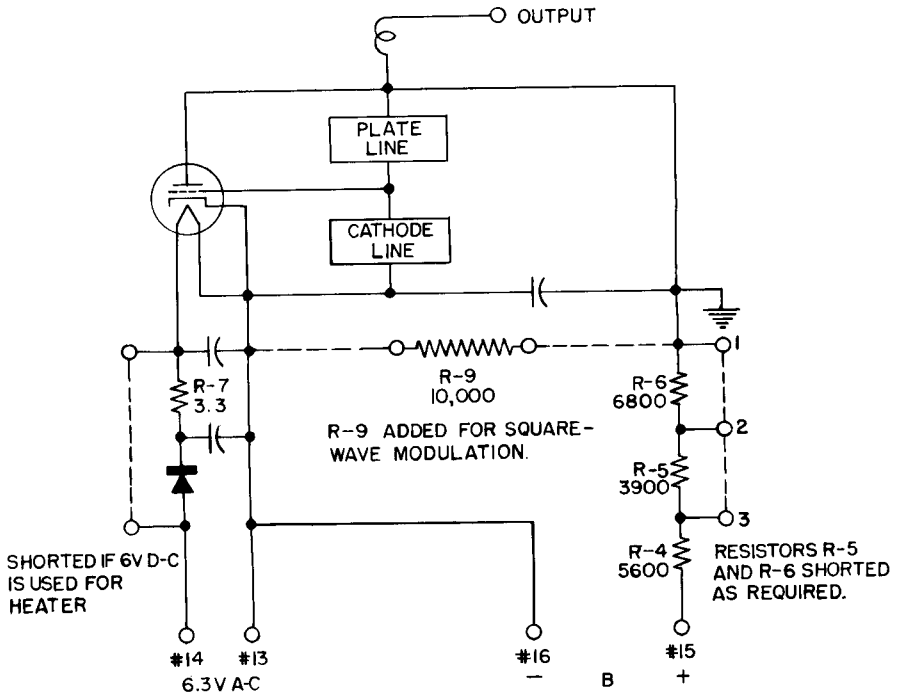

Figure 2. Simplified Heater and Plate Supply Wiring Diagram.
**2.3 POWER SUPPLY.** A wiring diagram of the oscillator is shown in Figure 10. A simplified wiring diagram for heater and plate supply is shown in Figure 2. Like other Unit Oscillators, the Type 1218-A works best from a 300-volt power supply with about one half this voltage on the plate of the oscillator tube. The large plate series resistor required for this operation helps stabilize the oscillator and protects the tube from overloads. To avoid complications in the rf output circuit, the B supply is grounded at the plate potential of the oscillator tube. To reduce undesirable fm, if 6.3-volt ac heater power is used, a rectifier and filter for the cathode heater voltage have been included. One of the small GR Unit Power Supplies will be satisfactory for most uses. These power supplies all have 300-350 volts plate voltage under load and 6.3 volts ac for the heater. For stable operation, good regulation and low hum voltages are essential. A one-percent change in plate voltage changes the oscillator frequency approximately 20 parts per million; a one-percent change in heater voltage approximately 50 parts per million. If the heater of the oscillator is operated from 6.3-volt, 60-cycle ac power and rectified and filtered by the built-in circuit, noise modulation of the oscillator frequency has a peak deviation of the order of 4000 cps or 2 parts per million. This deviation can be reduced by an order of magnitude if a battery is substituted for the rectified supply. Small hum voltages in the plate supply are attenuated considerably by the large plate circuit series resistor mentioned previously and by a bypass condenser in the oscillator. These voltages do not contribute noticeably to fm noise modulation unless a battery is used for the heater. Fm noise due to vibration and microphonics can readily be kept below these values.